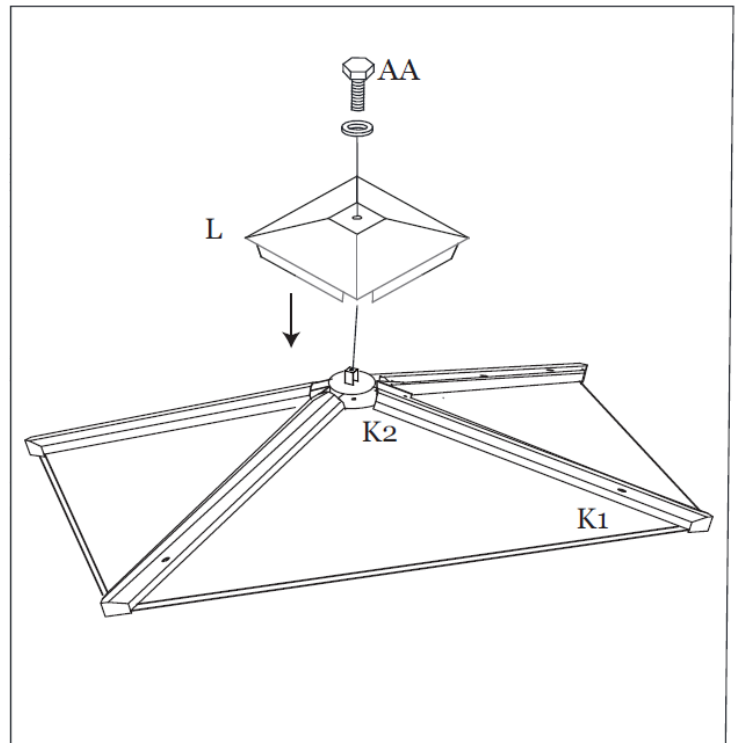
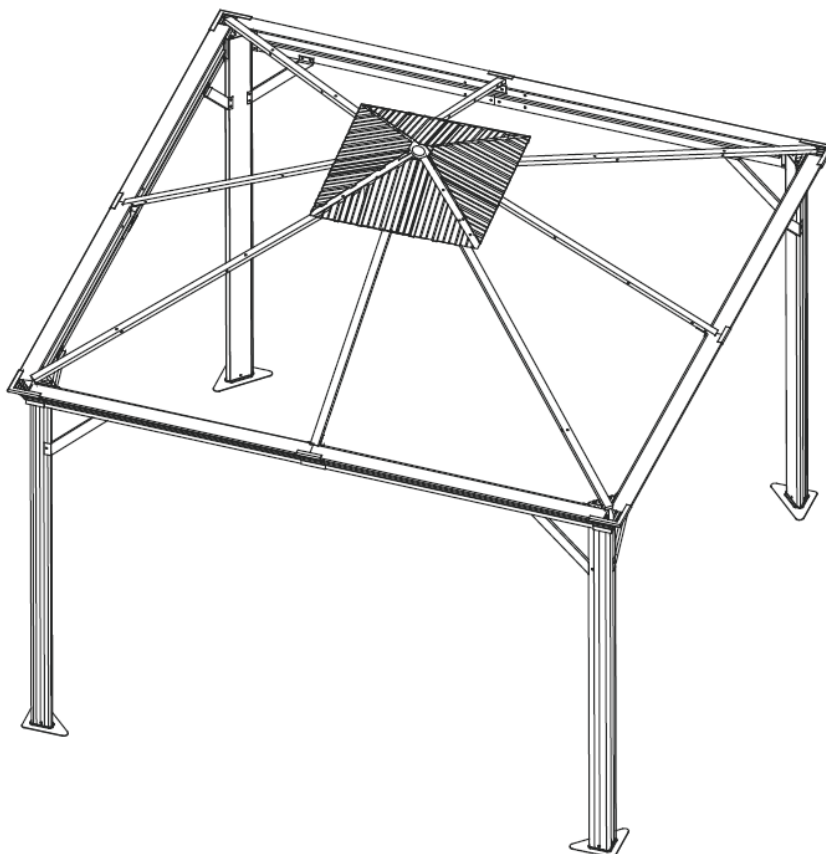

Figure 10-3
Figure 10-2
Step 10B: Repeat for all corners. **Tighten all Bolts.** See Figure 10-2.
Step 10C: Attach the Roof Vent Top Trim (L) to the Roof Vent Center Support (K2) using Bolt (AA). **Tighten all Bolts.** See Figure 10-2 and Figure 10-3.